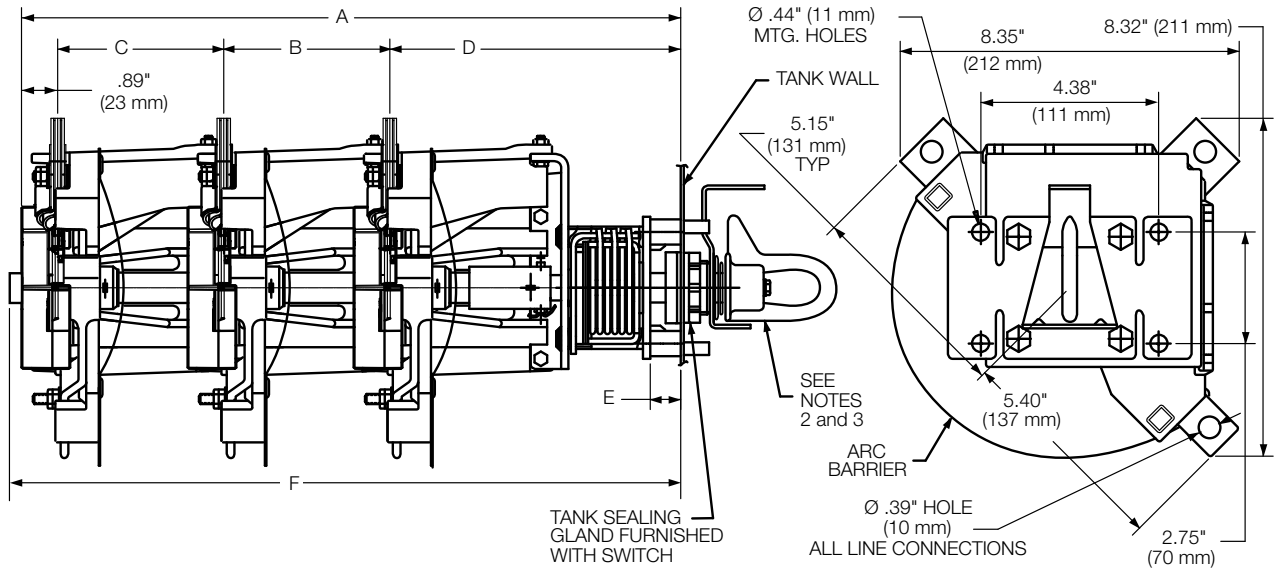

Figure 2. Line illustration with dimensions of sectionalizing switch with "Bolt-In System."
Table 3. Dimensional Information for Figures 2 and 3 (inches/mm)
1. Dimensions given in Figure 2 and Table 3 are for reference only.